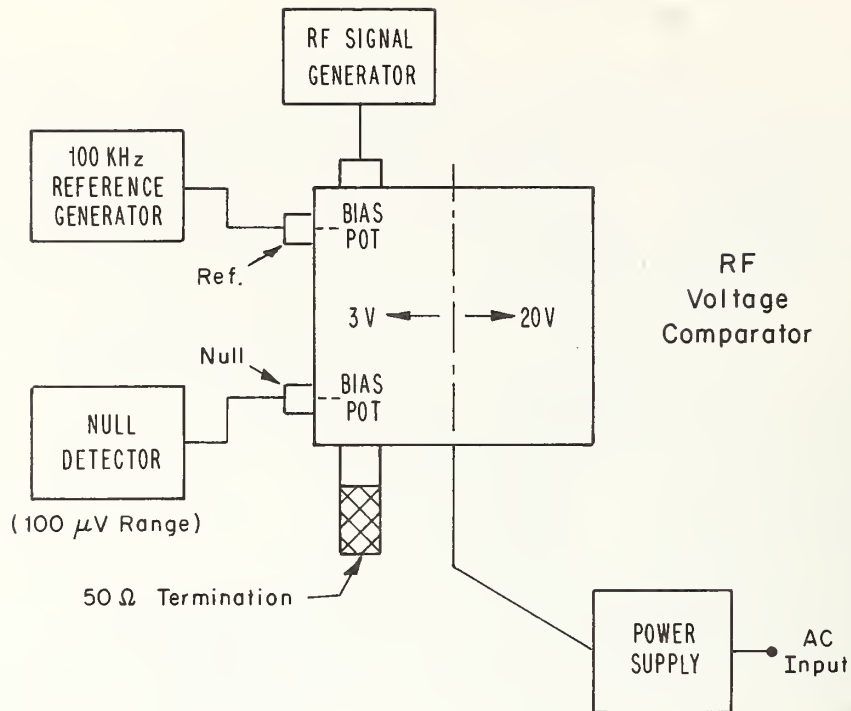

Figure 7. Block Diagram for Calibration of RF Signal Generators (0.01 - 0.1 V)
- c. Connect the equipment as shown in figure 7.